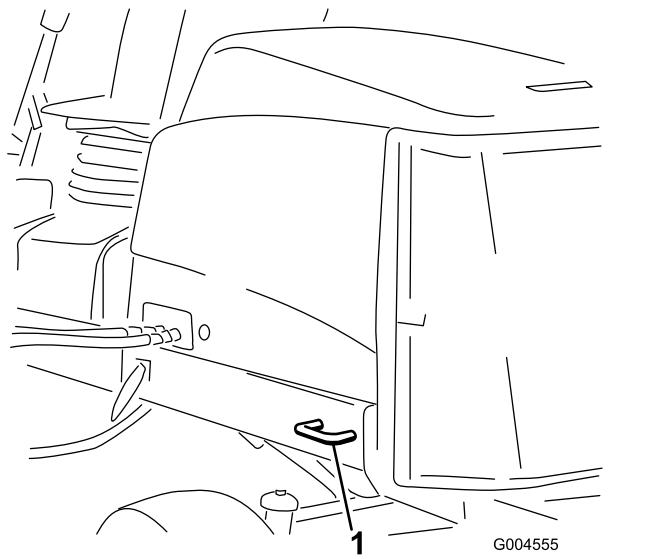

Figure 61
- **Rear of the machine**—each side of the machine on the rear frame (Figure 61).